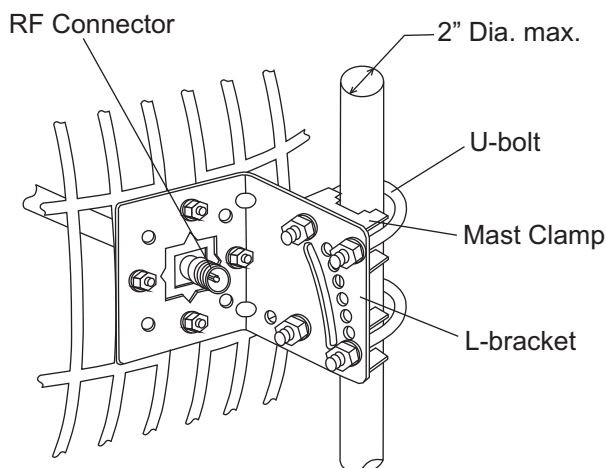

Figure F3
3. Fasten the antenna onto the mast with the 2 U-bolts, mast clamps, flat & lock washers and nuts (Fig. F3).